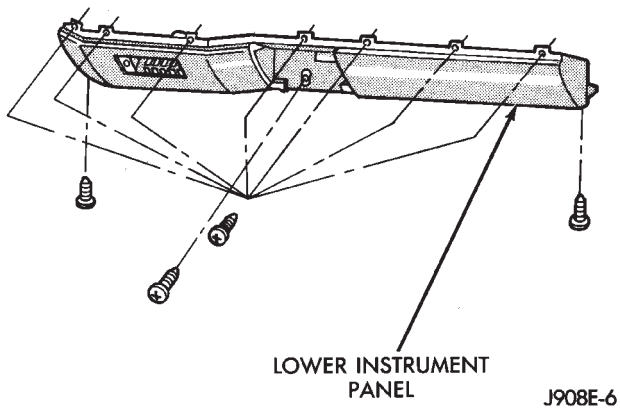
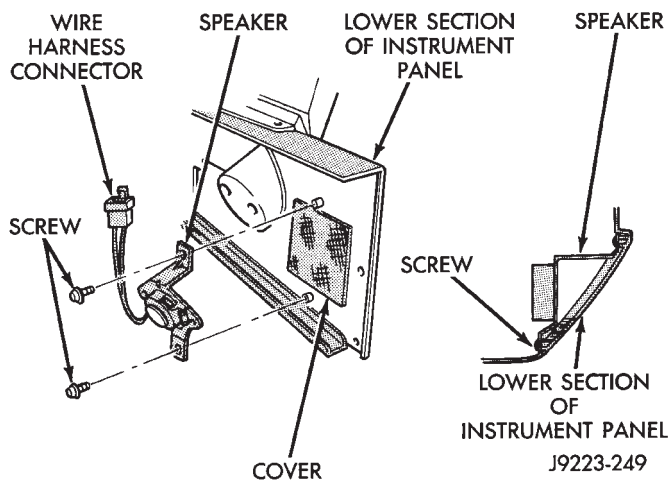

Fig. 9 Lower Instrument Panel Remove/Install - XJ
Fig. 10 Instrument Panel Speaker Remove/Install - XJ
- (2) Remove retaining screws and the lower instrument panel (Fig. 9).
- (3) Unplug wire harness connector.
- (4) Remove speaker screws and speaker from lower instrument panel (Fig. 10).
- (5) Reverse removal procedures to install.